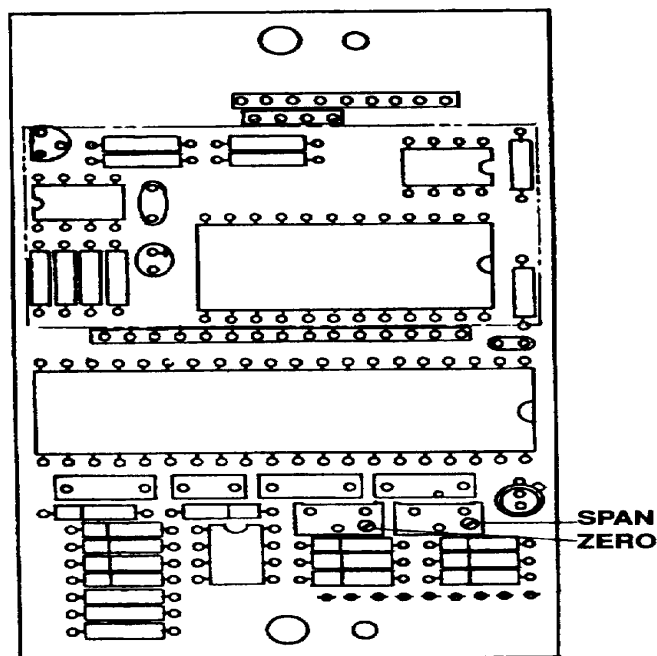
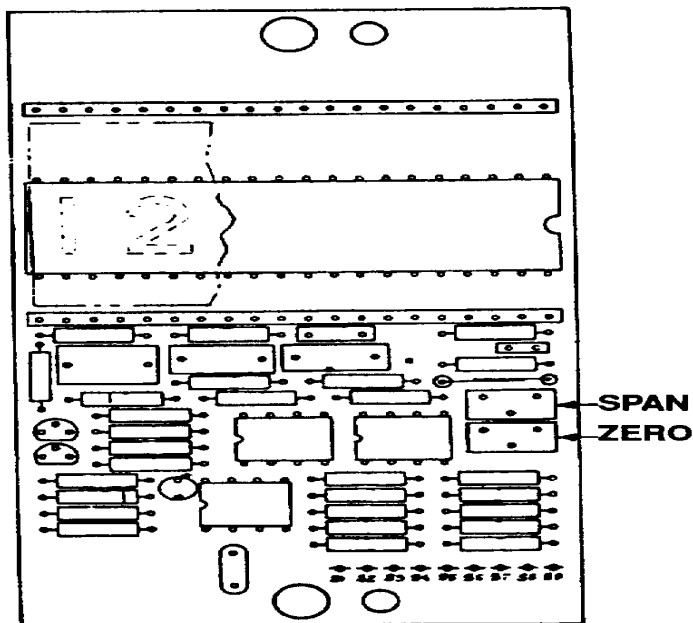

Figure 2. Consolidated Devices, Models DPT 1200 and DPT 1200R -adjustment locations.
Figure 3. Consolidated Devices, Models DPT2500 and DPT-2500R - adjustment locations.
(10) Reseal retaining screws with sealant. Repeat table 4.
(11) Operate crank cw to obtain an indication of 800 ft-lbs (1200 ft-lbs for models DPT-2500 and DPT-2500R) on force/torque indicator.
(12) Adjust SPAN screw (fig. 2 and fig. 3) for an indication of 800 ft-lbs (1200 ft-lbs for models DPT-2500 and DPT-2500R) on digital display (R).
It should not be necessary to adjust internal ZERO (fig. 2 and fig. 3) unless circuit board is repaired.